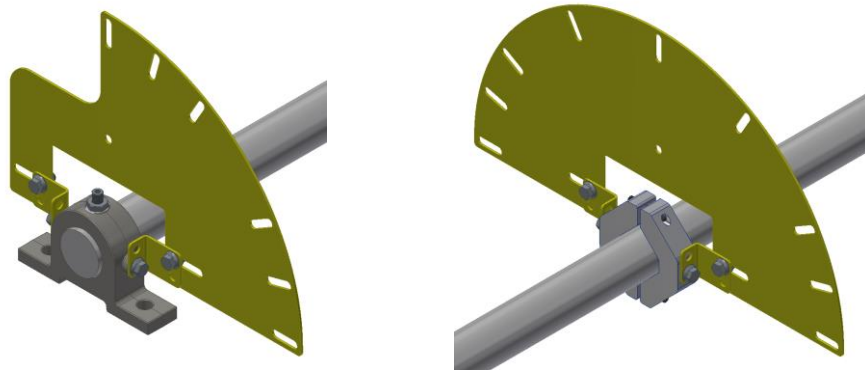

Figure 4: Rope Retainer Side Plates
- Position the rope retainer side plates as shown below in Figure 4 on the sheave side of the rope retainer side plate mounting brackets.